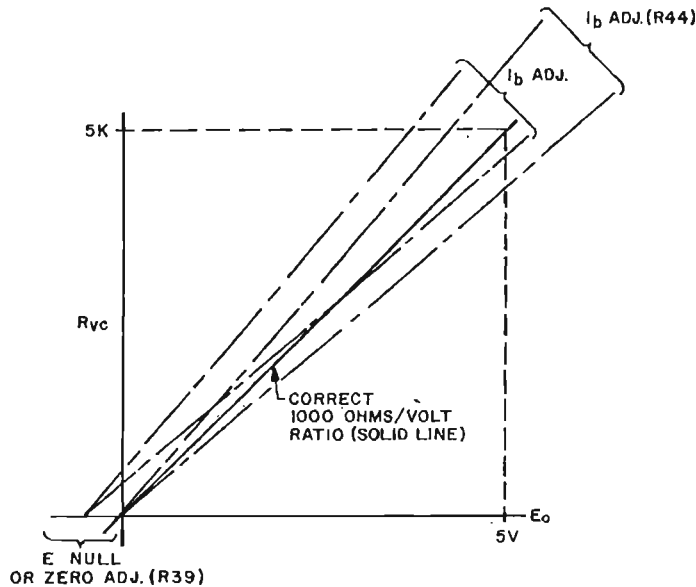

FIG. 3-8 PROGRAMMING RATIO PLOT.
- e) Open S1 and check the 5 volt reading. Repeat "C" and "D" as necessary to achieve the desired accuracy. FIG. 3-8 below shows graphically how the programming ratio can be precision adjusted.